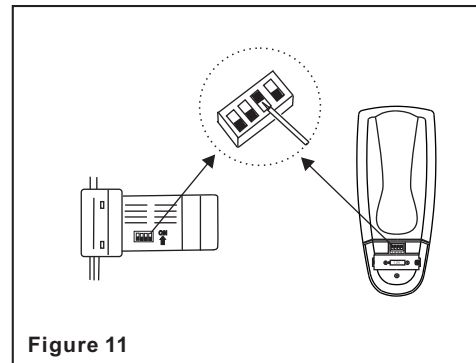

Figure 11
**NOTE:** The Hand Held Remote or Wall Control units included with your ceiling fan are equipped with 16 code combinations to prevent possible interference from or to other remote units. The dip switches on your Receiver and Transmitter units have been preset at the factory, please re-check to make sure the switches on both units are set to the same positions. The frequency settings should be changed only in case of interference or if a second or more remote controlled ceiling fans are installed in the same structure. Any code combination will operate the ceiling fan and light as long as the Receiver and Transmitter units are set to the same codes (Fig. 11)